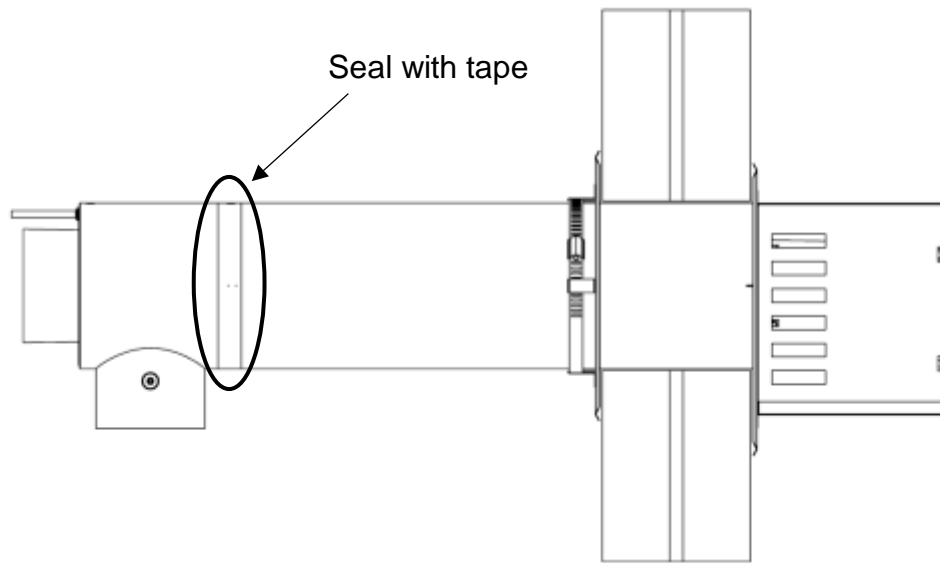

Figure 4 – Terminal installation (Step 9)
9. Seal with aluminum duct tape the joint between the terminal air adapter and the other fixe tube of the terminal. See figure 4.